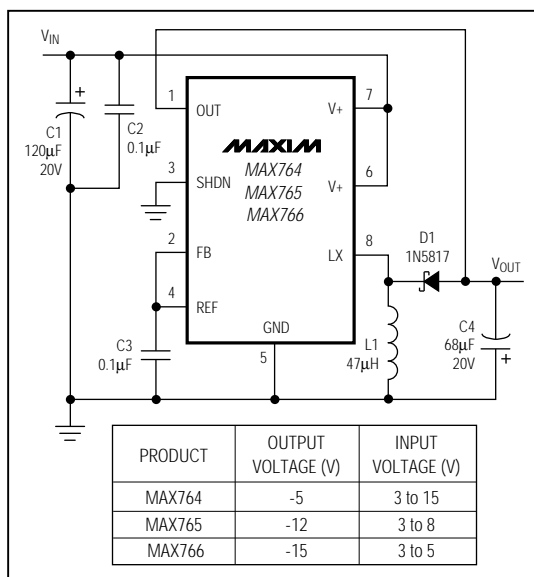

Figure 2. Fixed Output Voltage Operation
Note 2: Circuit of Figure 2.
CIRCUIT OF FIGURE 2, $V_+ = 5V$, $I_{LOAD} = 100mA$, $V_{OUT} = -5V$
CIRCUIT OF FIGURE 2, $V_+ = 5V$, $V_{OUT} = -5V$
CIRCUIT OF FIGURE 2, $V_{OUT} = -5V$, $I_{LOAD} = 100mA$
CIRCUIT OF FIGURE 2, $V_+ = 5V$, $V_{OUT} = -5V$, $I_{LOAD} = 140mA$
CIRCUIT OF FIGURE 2, $V_+ = 5V$, $V_{OUT} = -5V$, $I_{LOAD} = 80mA$
CIRCUIT OF FIGURE 2, $V_+ = 5V$, $V_{OUT} = -5V$, $I_{LOAD} = 240mA$
- Figures 2 and 3 show the standard application circuits for these devices. In these configurations, the IC is powered from the total differential voltage between the input (V₊) and output (V_{OUT}). The principal benefit of this arrangement is that it applies the largest available signal to the gate of the internal P-channel power MOSFET. This increased gate drive lowers switch on-resistance and increases DC-DC converter efficiency.